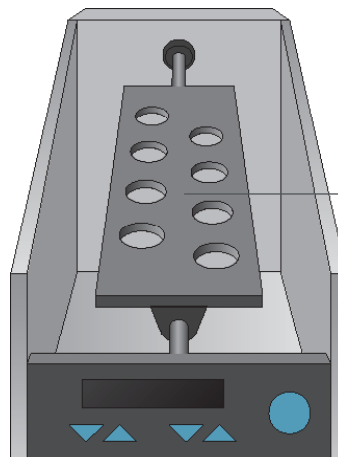

Figure 5
- 4.6. Place the Cartridge Rack containing up to 8 nRicher Cartridges into the Revolution Processor (see Figure 5, page 8).